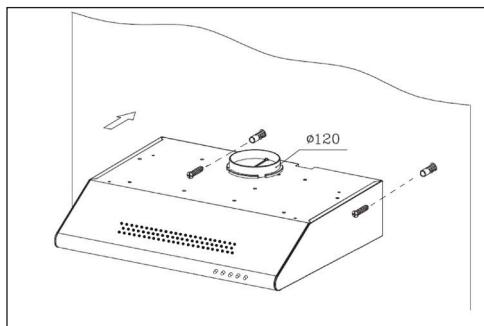
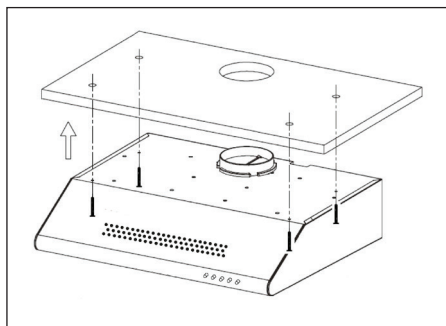

Fig. 5
Fig. 6
4. Drill the holes and attach the hood to the top cabinet according to Fig. 5, or to the wall according to Fig. 6.